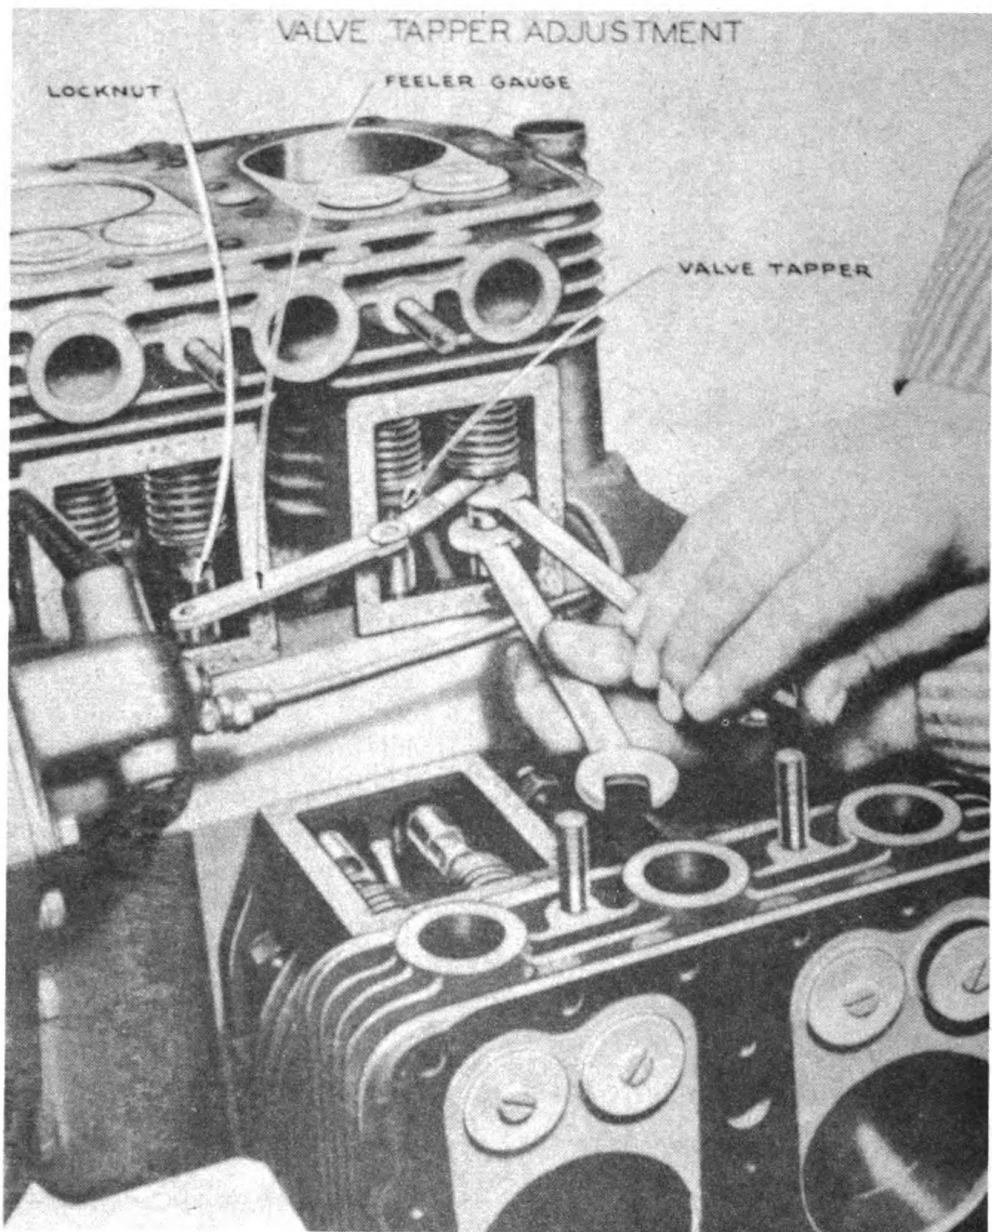

Fig. 72
**ADJUSTING TAPPERS**—Adjusting screws are provided in the tappers, and these should be adjusted to give a clearance of ten thousandths (.010") of an inch at the inlet valve stems, and twelve thousandths (.012") of an inch at the exhaust valve stems, when the engine is cold. To adjust, turn the engine over with the crank until the valve is closed, then continue turning about  $\frac{1}{2}$  turn to be sure that the taper is no longer riding the high side of the cam. Then using a standard feeler gauge, check the clearance (Fig. 72) and make the necessary adjustments with the use of standard taper wrenches. After adjustment has been made be sure the taper adjusting screw lock nut is locked so as to hold the proper adjustment.